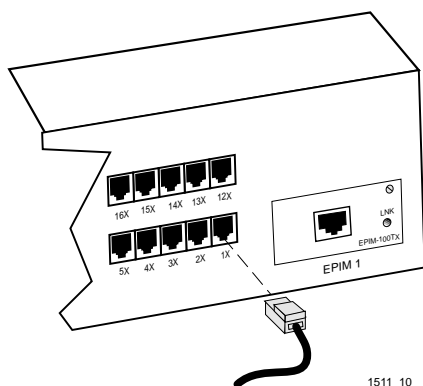

Figure 5-1 SEHI Network Ports
1. Insert the RJ45 connector from each twisted pair segment into the desired network port on the SEHI. See Figure 5-1.